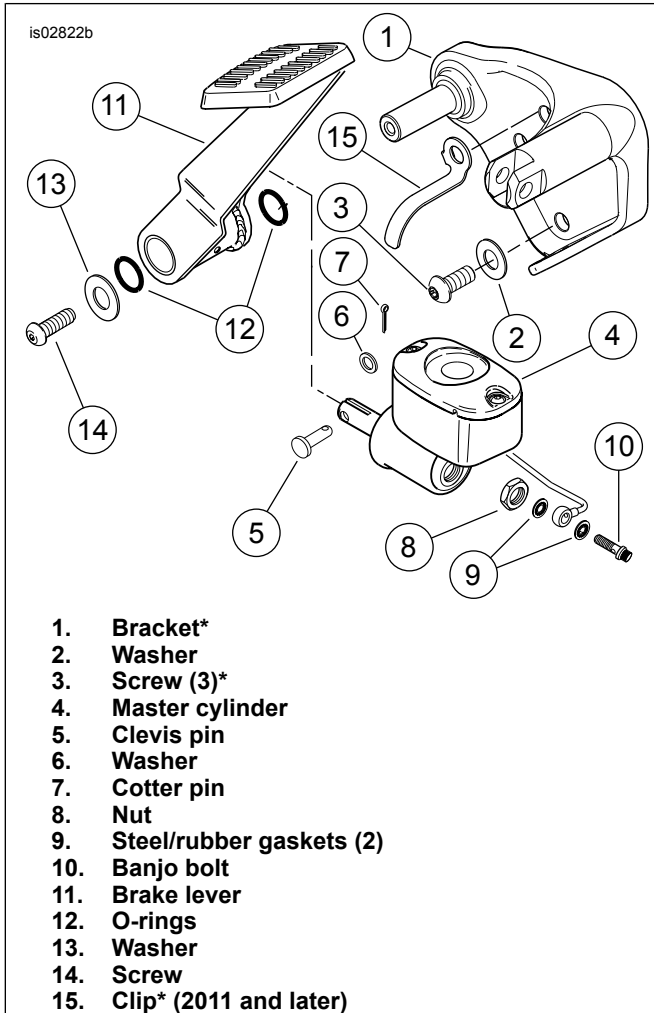

Figure 1. Right Side Footboard Mounting Bracket and Brake Lever Components
1. See Figure 1. Remove FL brake lever (11) and footpeg (not shown).
2. Remove master cylinder (4) per applicable Service Manual instructions.
4. Obtain the new right side chrome bracket (1), and three chrome screws (3) from the kit.
5. See Figure 1. Place the washers (2) previously removed over the screw threads. Apply LOCTITE® 243 (Blue) to the threads, and install the new bracket assembly to the motorcycle frame. Tighten the screws to 54.2 N·m (40 ft-lbs).
6. Obtain the new brake lever (11) and make sure the O-rings (12) remain in position. Slide the new brake lever onto the mounting bracket shaft. Install the screw (14) and washer (13). Tighten to 16–22 N·m (12–16 ft-lbs).